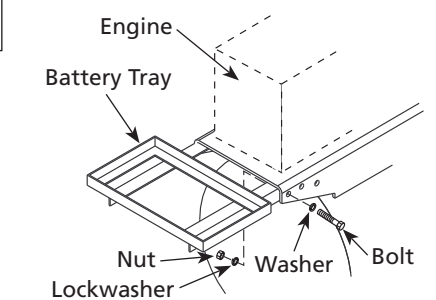

Figure 1 - Mount tray
1. Install battery tray onto the baseplate of the compressor using provided hardware (See Figure 1).